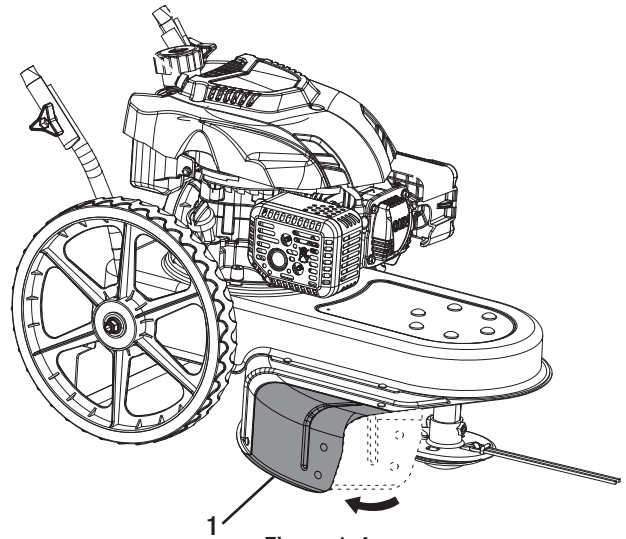

Figure 1-4
- Pull the trimmer shield (1) out into position by pivoting the hole. See Figure 1-4.